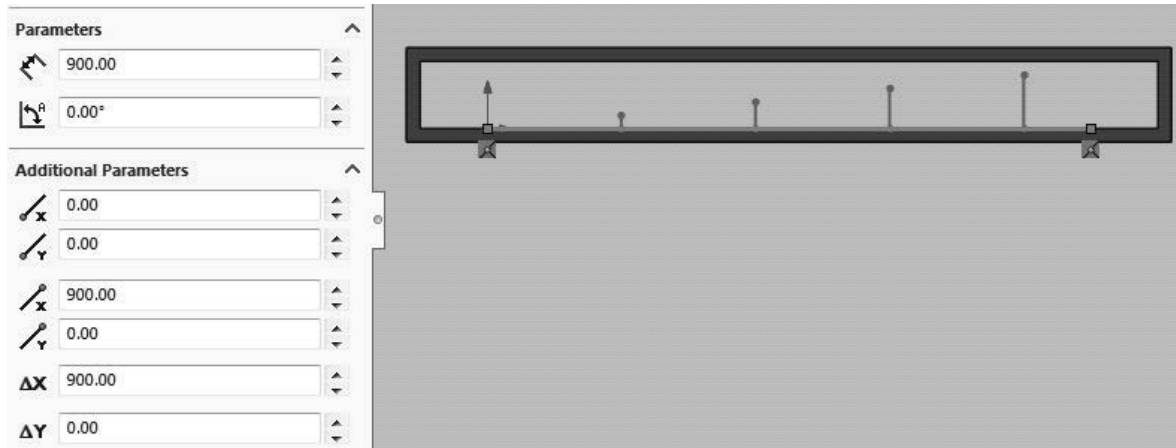

Figure 2.9 Sketch of a line in the X-direction
9. Click on the **Rebuild** symbol  in the SOLIDWORKS menu. Repeat step 6 and draw a horizontal line in the positive X-direction starting at the origin of the lower inner surface of the sketch. Set the **Parameters** and **Additional Parameters** to the values shown in figure 2.9 and close the **Line Properties** dialog and the **Insert Line** dialog. Click on the **Rebuild** symbol. Rename the sketch in the **FeatureManager design tree** and call it **x = 0 – 0.9 m**.